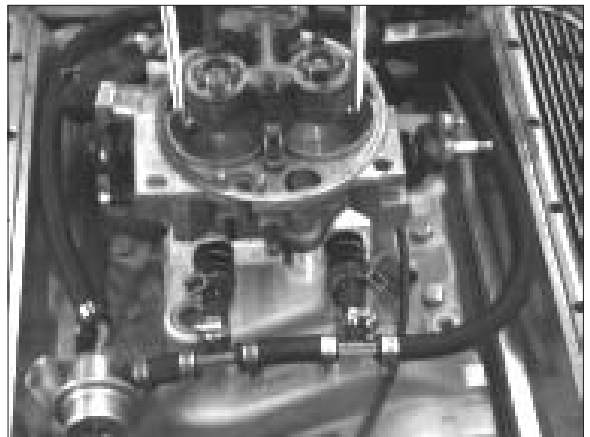

Fig. 5-a
- A. Remove the TBI unit from the manifold. (See Fig. 5-a.) Remove old gaskets and clean the gasket surfaces.
- D. Mount the additional fuel pump to the inner side of the frame rail beneath the driver's side floor. Use the shorter hose provided to help locate the pump the correct distance from the filter. This hose has an adapter fitting on the filter end. Secure the pump to the frame and hose with the clamp and fastener provided. (See Fig. 5-a.)